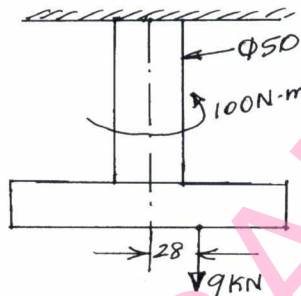

Fig.Q1(a)
- 1 a. A 50 mm steel rod supports a 9 kN load and in addition to this a torsional moment of 100 N-m is applied on it as shown in Fig.Q1(a). Determine the maximum tensile and maximum shear stresses. (10 Marks)